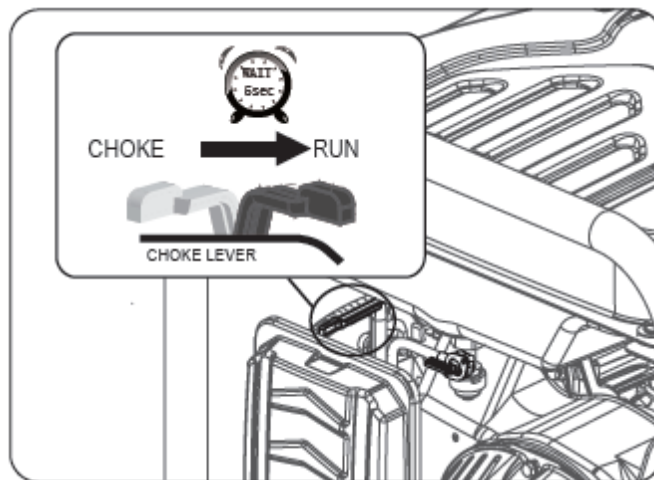

Fig. 9 -
- Let engine run for several seconds and then gradually, as engine warms up, slide the choke lever towards the "RUN" position until the choke is fully slid to the "RUN" position (See Fig. 9).